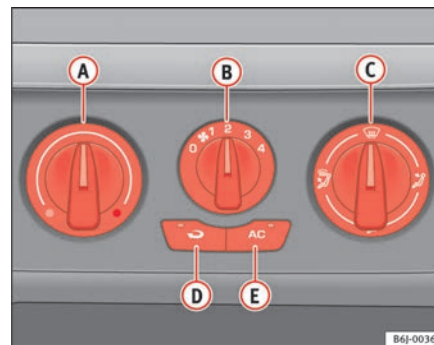

Fig. 90 Air conditioning controls on the instrument panel
- Disconnect the cooling system using button ⇒ fig. 90  (the button light turns off).